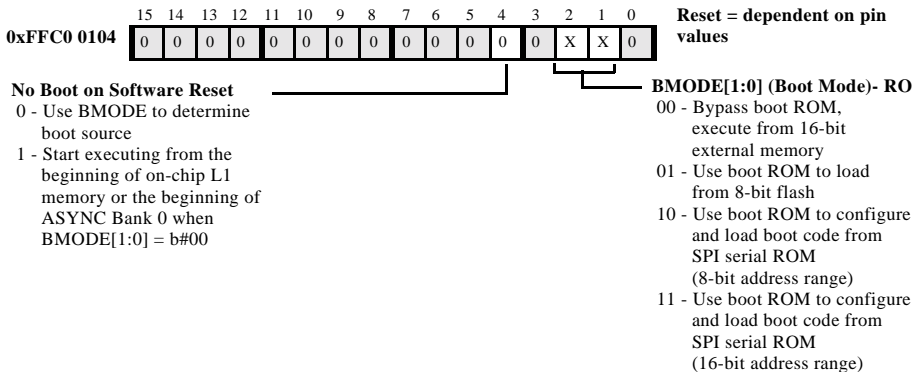

Figure 2-8. ADSP-BF533 Processors: System Reset Configuration Register
2. Checks whether the `RESET` was a software reset and if so, whether to skip the entire boot sequence and jump to the start of L1 memory (`0xFFA0 0000` for ADSP-BF533 processor; `0xFFA0 8000` for ADSP-BF531 and ADSP-BF532 processors) for execution. The on-chip boot ROM does this by checking bit 4 of the System Reset Configuration Register (Figure 2-8). If bit 4 is not set, the on-chip boot ROM performs the full boot sequence. If bit 4 is set, the on-chip boot ROM bypasses the full boot sequence and jumps to the start of L1 memory.